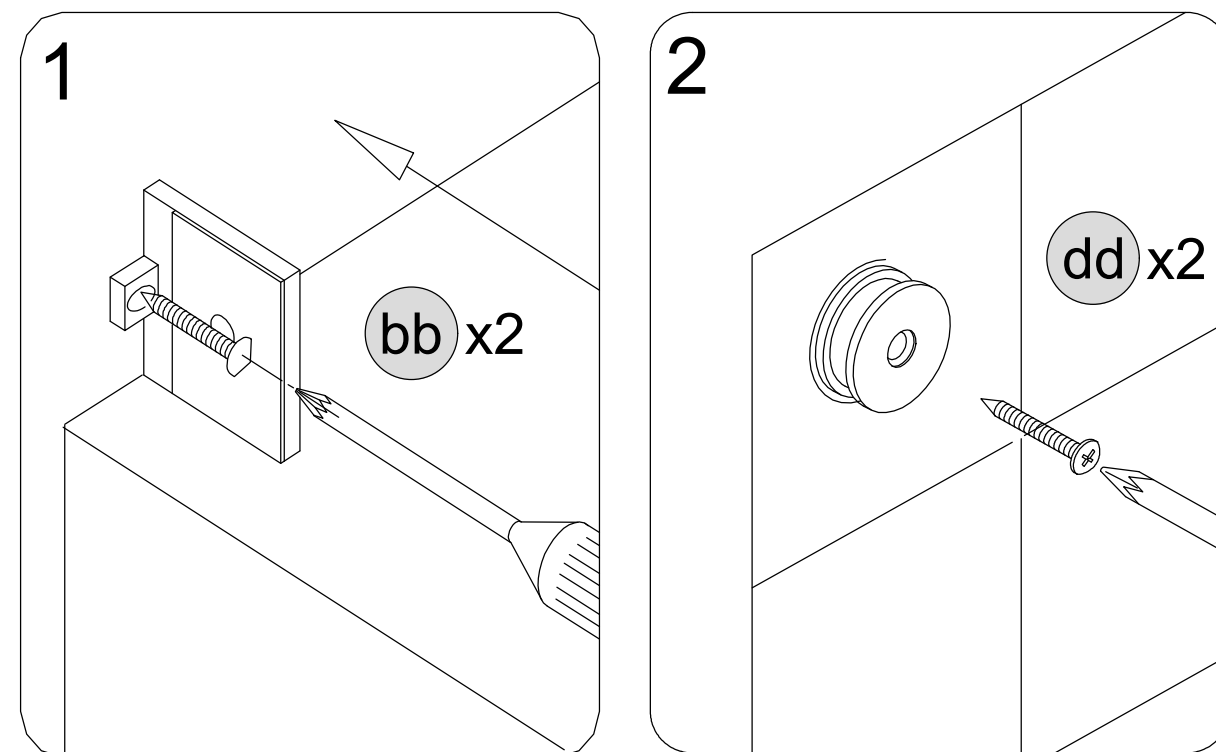

Fig 7
Tighten the screws on **Guide Rail Bracket (H)**. (Fig 7)